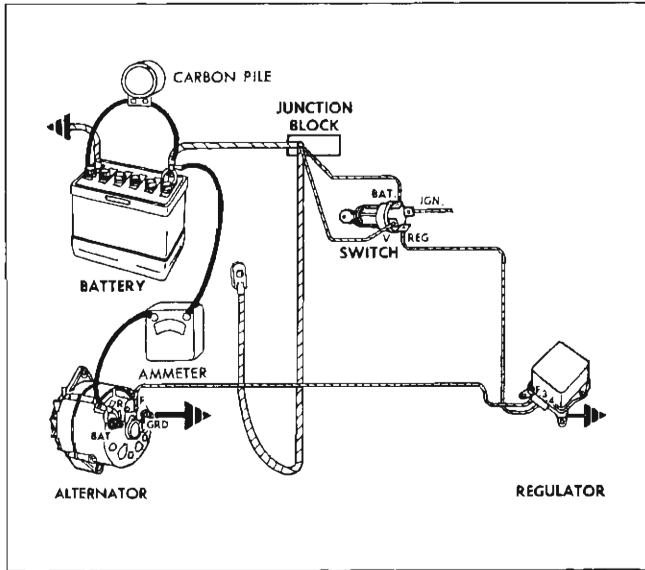

Fig. 11-27 Ammeter Measuring Output
- 4. Disconnect ammeter lead from alternator output lead and connect ammeter lead to positive terminal of battery (Fig. 11-27).